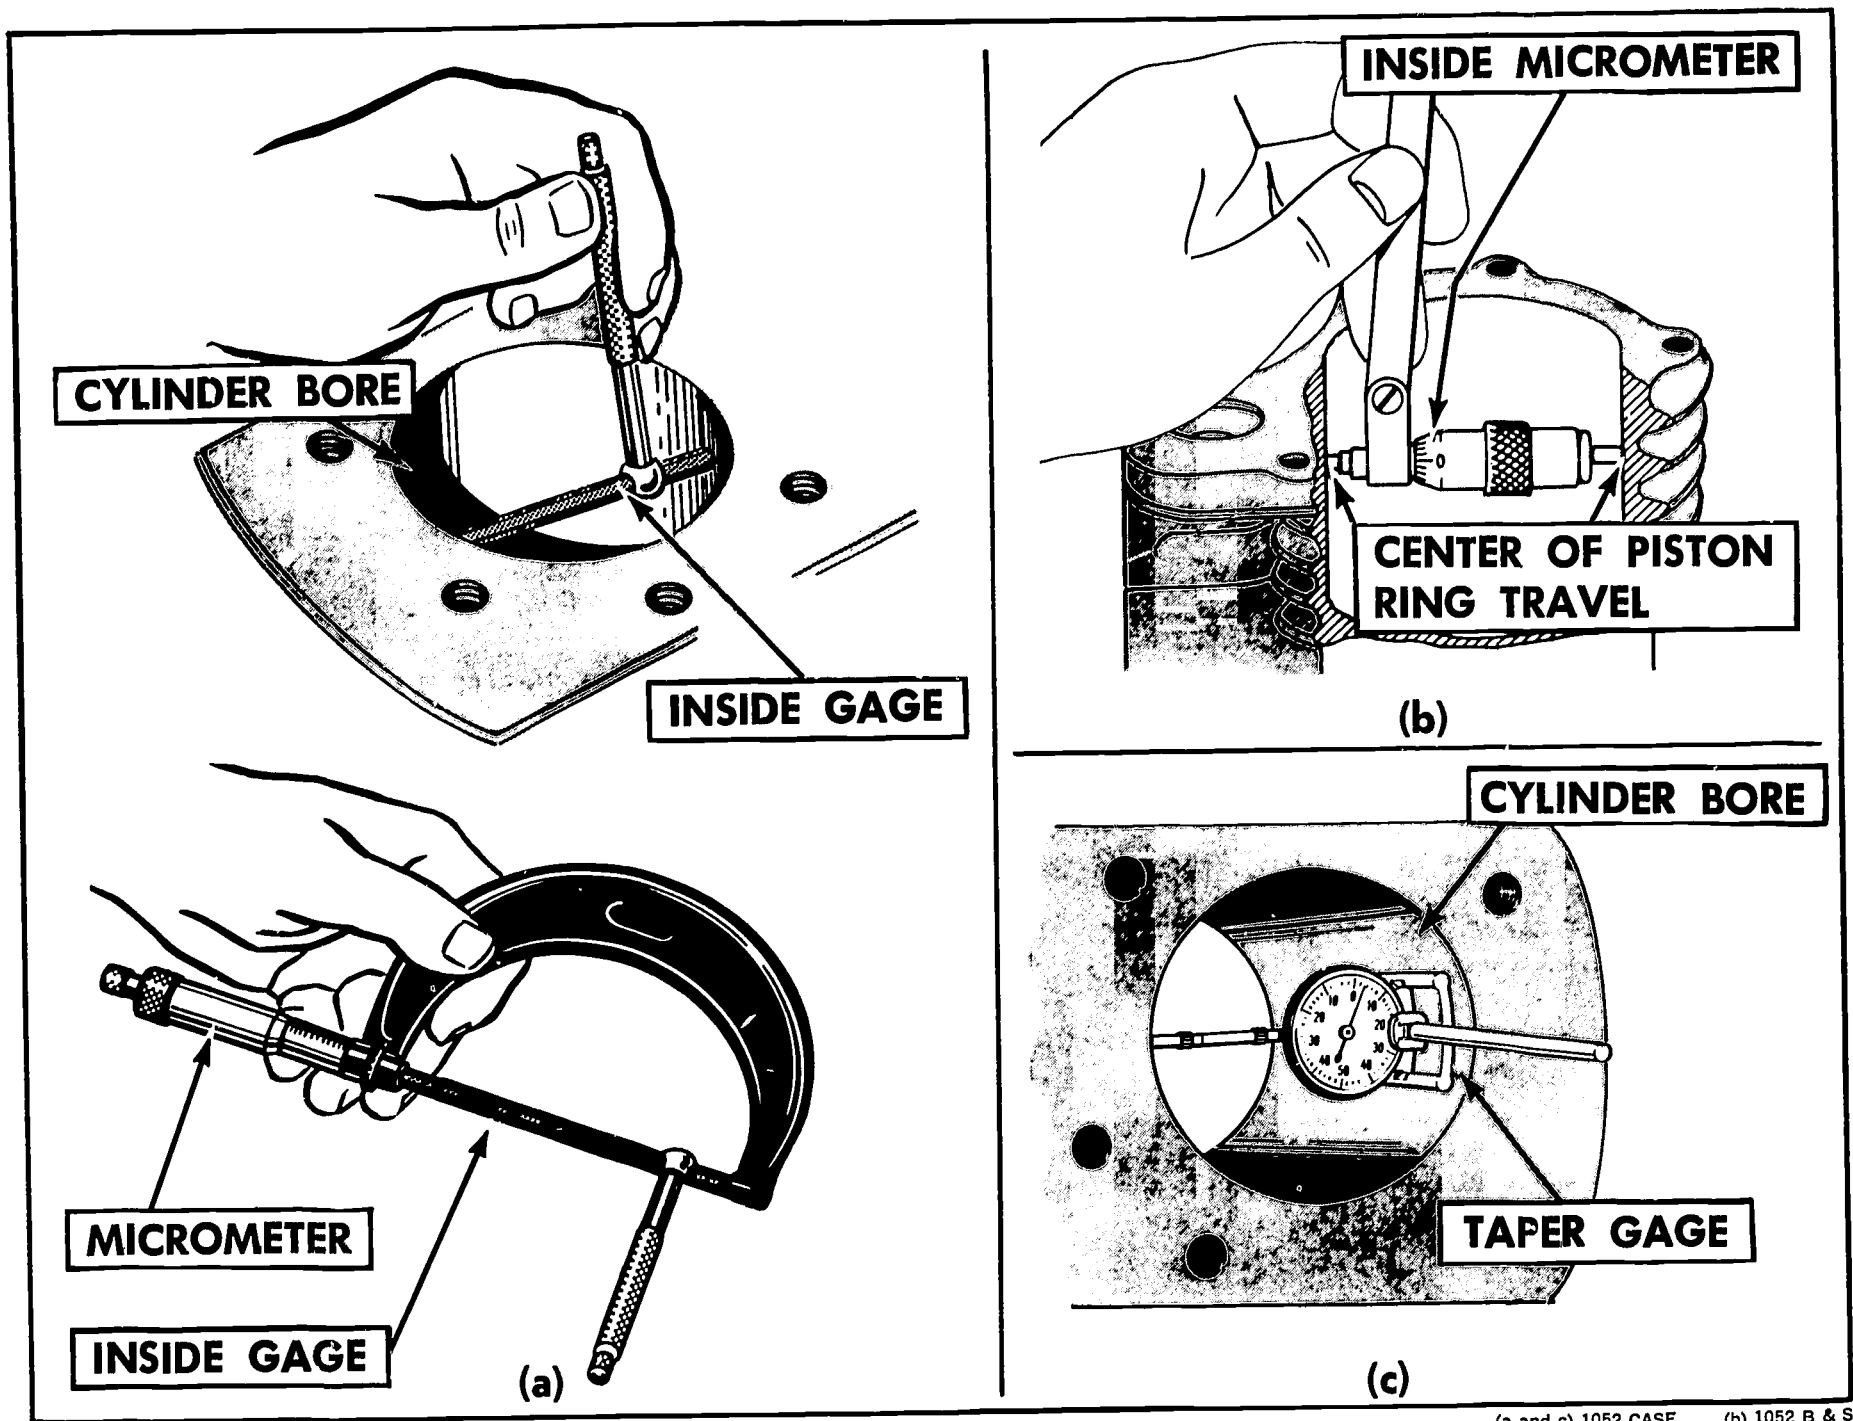

FIGURE 270. Methods for measuring the diameter of a cylinder. (a) Adjustable inside gage and micrometer for
4. Measure and record the diameter of the cylinder for wear (Figure 270).